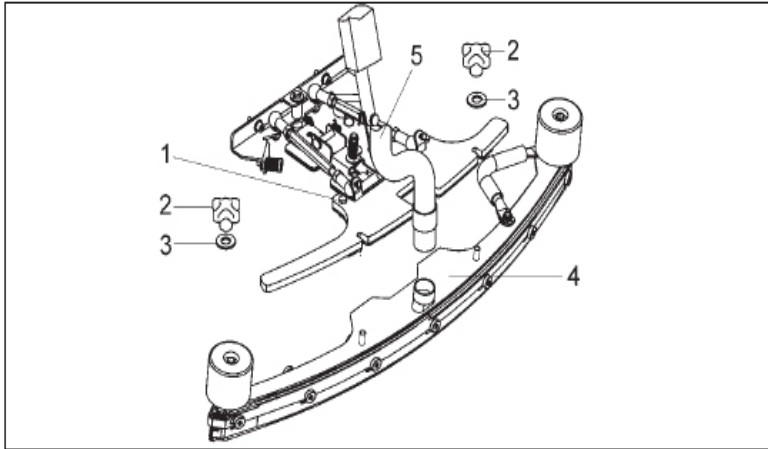

Figure 15 - Installing and Removing Squeegee tool
Refer to Figure 15 for items in the procedure:
1. Lower squeegee mount (1)
4. Fasten squeegee tool (4) to squeegee mount (1) according to (Figure 15)
5. Attach suction hose (5) to squeegee tool.
4. Unplug suction hose (5) from squeegee tool
5. Unscrew star-shaped knobs (2)
6. Pull squeegee tool (4) towards bottom and remove (Figure 15).
1. Remove squeegee tool according to Figure 15.